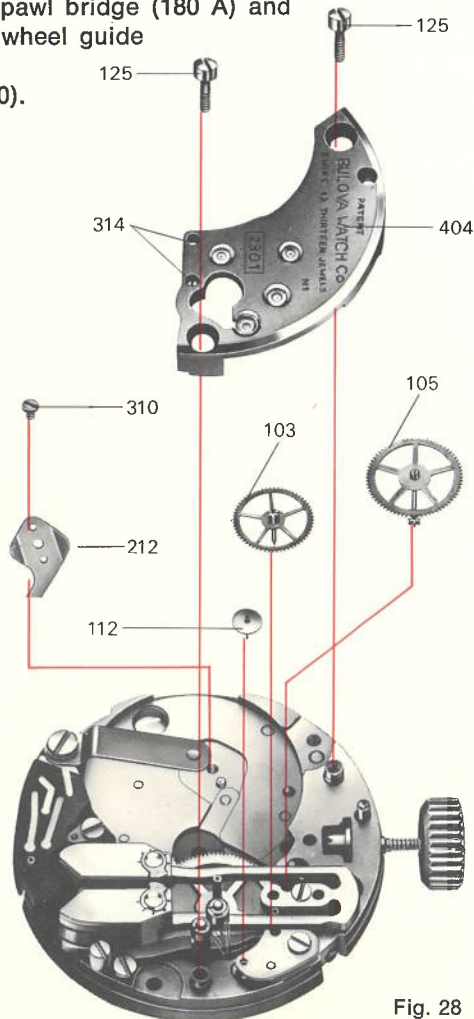

Fig. 28
- a. Remove the two screws (125) and the train bridge (404).
- b. Remove all wheels (112, 103, 105) with the exception of the 4th wheel (107). (Fig. 28).